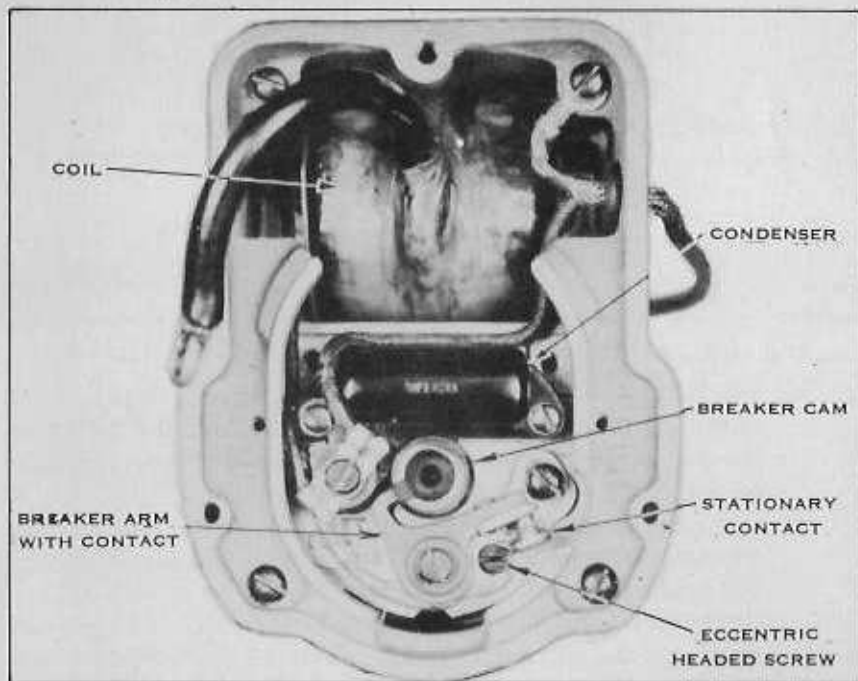

FIG. 26 MAGNETO (SHOWING BREAKER MECHANISM)
- Breaker contacts eventually become pitted and eroded. Examine them, Fig. 26. They should be clean, free of pits and pyramids and in alignment. If not too bad they may be resurfaced by using a small, file-like carborundum hone. Use care to get them square. They may be cleaned with lacquer thinner and must be free of